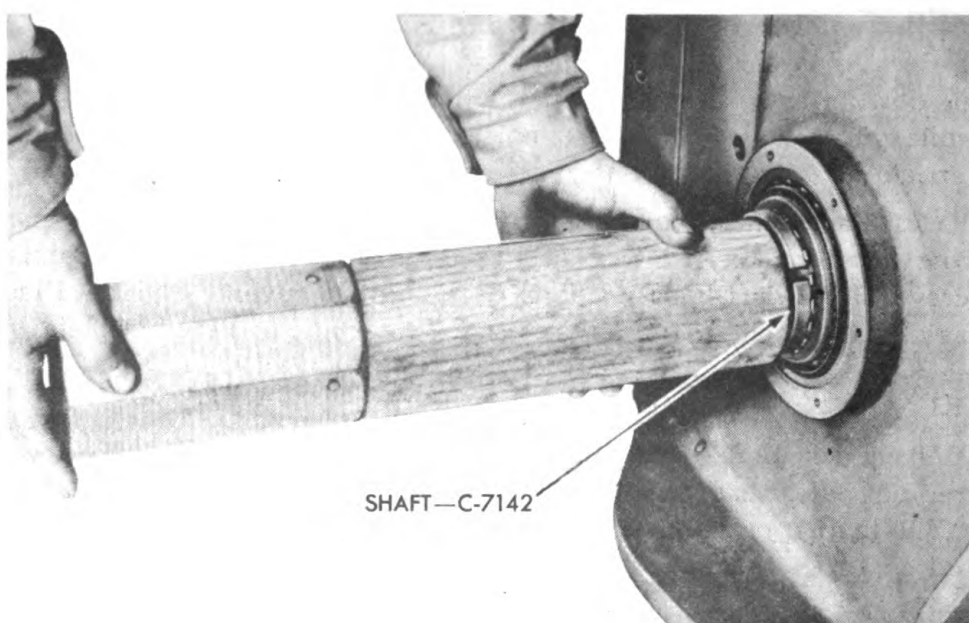

Figure 198—Installing Elevating Shaft
(4) Slide the elevating shaft and gear to the right so that the roller bearing on the left end starts to enter the opening in the top carriage. While another man guides the right end of the shaft into the opening in the right side of the top carriage, drive the shaft and bearing into place. Use a large wood block, 4 x 30 inches, and strike straight against left end of elevating shaft (fig. 198).